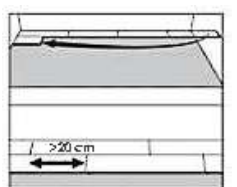

Figure 2
- Begin the second row with the cut piece from the first row (**Figure 2**). If the cut piece is shorter than 20 cm (8 in), do not use it. Instead, begin with a new plank that is at least 20 cm in length and allows 20 cm between the end joints on the adjacent planks.